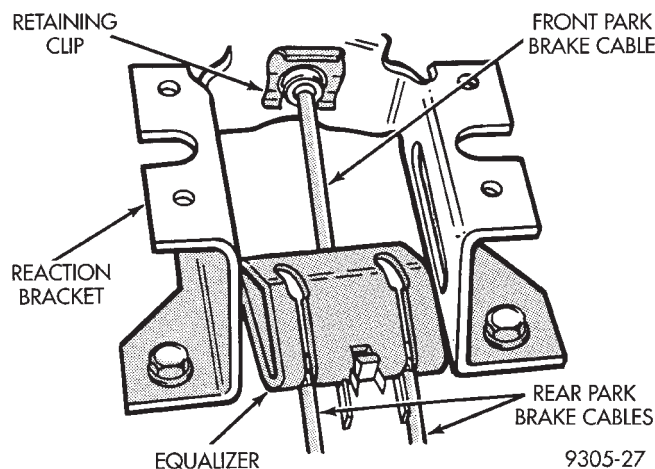

Fig. 149 Park Brake Cables Connected To Equalizer
(5) Lower vehicle.
(6) Connect the park brake cable to the park brake cable equalizer (Fig. 149). **Note: The equalizer can be moved rearward to allow connection of the rear cable to the equalizer.**